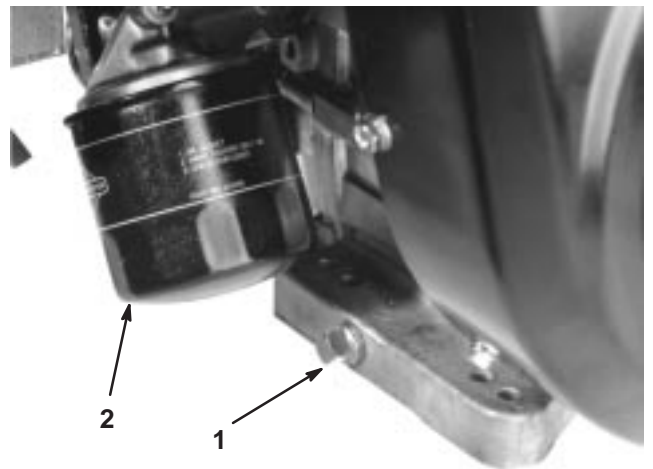

Figure 43
1. Remove the drain plug (Fig. 43) and let oil flow into a drain pan. When the oil stops, install the drain plug.
2. Remove the oil filter (Fig. 43). Apply a light coat of clean oil to the new filter gasket.